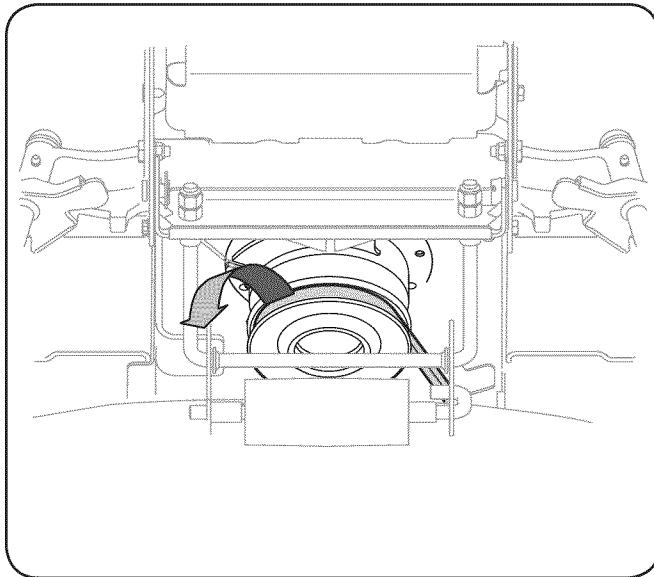

Figure 7-5
2. Carefully remove the belt from around the electric PTO clutch. See Fig 7-5.